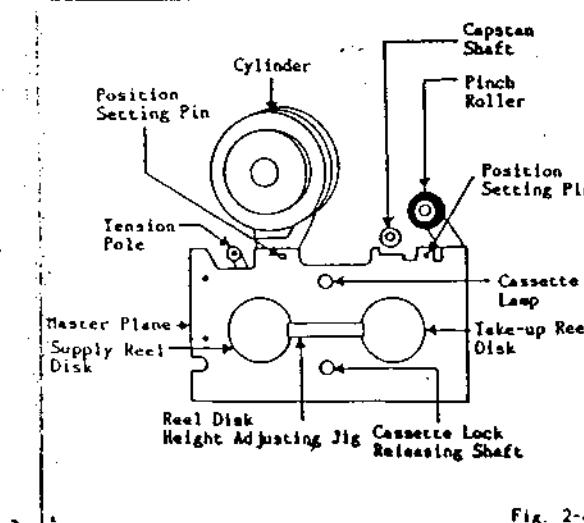

Fig. 2-a
1. Set the master plane (JG022) at mechanism framework, taking care not to scratch the drum, as shown in Fig. 2-a.